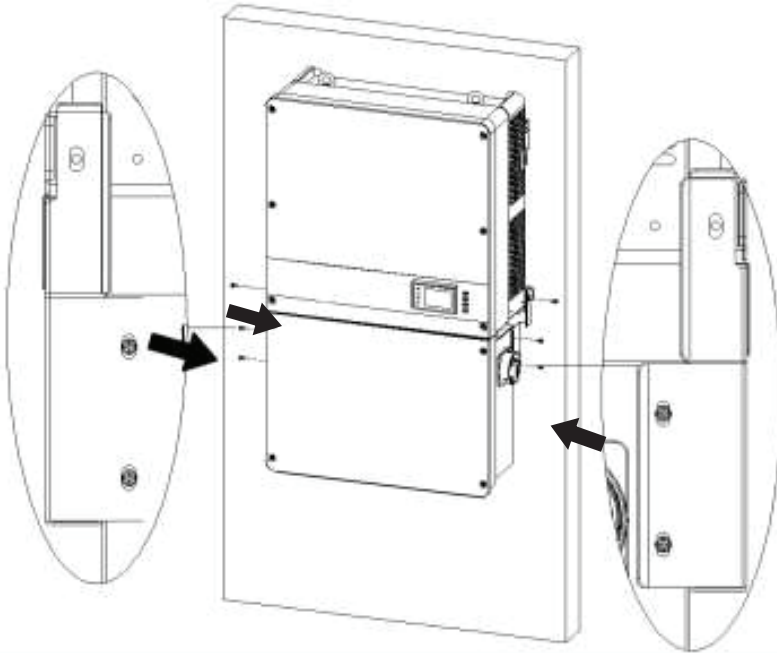

Figure 2.12 - Secure the Main Section and Wiring Box to the Bracket
(5) Attach the main section and the wiring box to the mounting bracket with the **M6x18 bolts** (6 pcs). (see Figure 2.12)